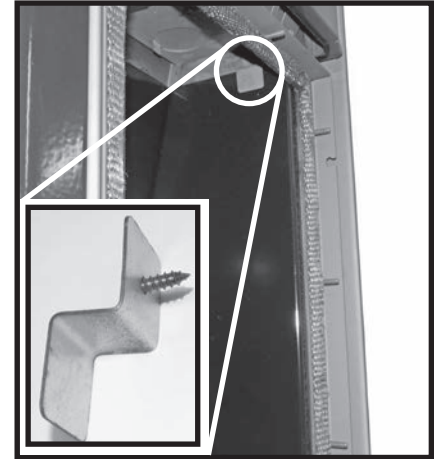

Figure 35: Side panel clip in place.
1. After removing the burner tray, remove one of the side panel clips (Figure 35). Then allow the top portion of the side panel to move away from the firebox wall (Figure 36). When you have enough room, remove the panel from the stove.